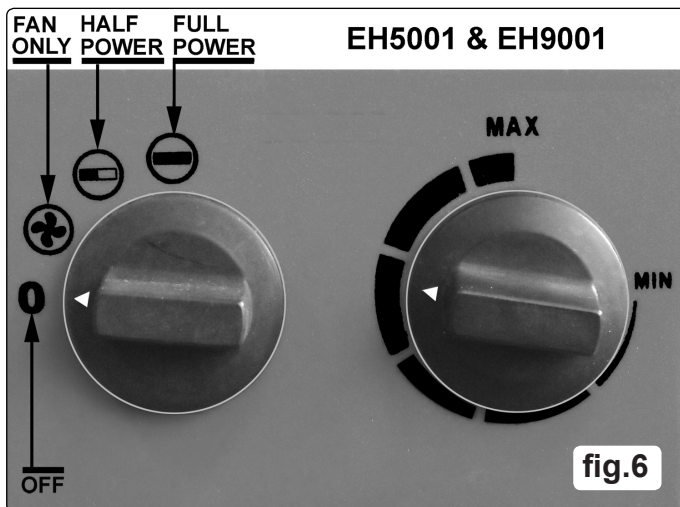
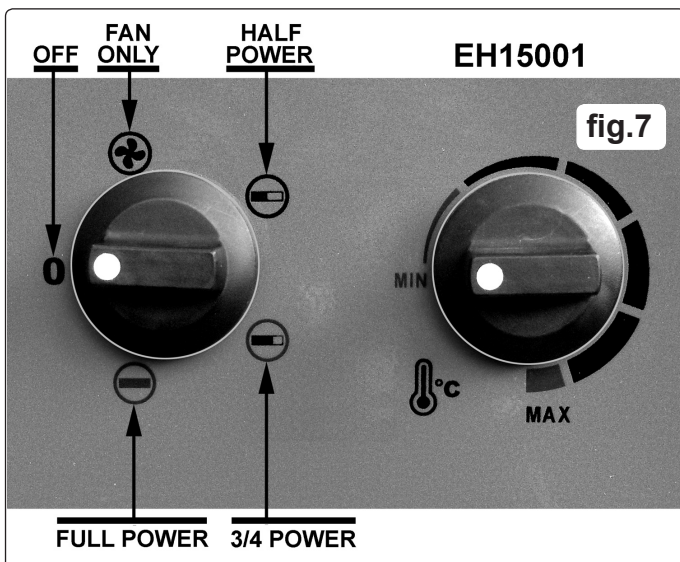

fig.6
fig.7
- 5.3. Referring to either fig.6 or fig.7, set the thermostat dial to the maximum setting (fully clockwise).